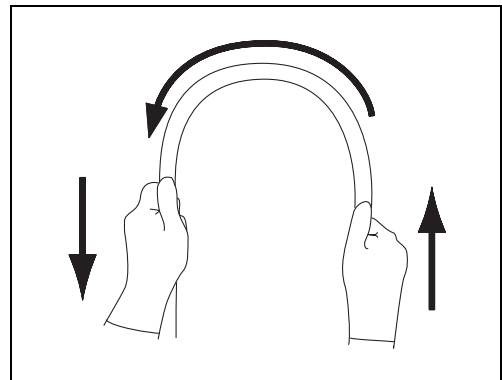

Figure 3.4
- 6 Using both hands, bend the insertion tube of the endoscope into a semicircle. Then, moving your hands as shown by the arrows in Figure 3.4, confirm that the entire insertion tube can be smoothly bent to form a semicircle and that the insertion tube is pliable.